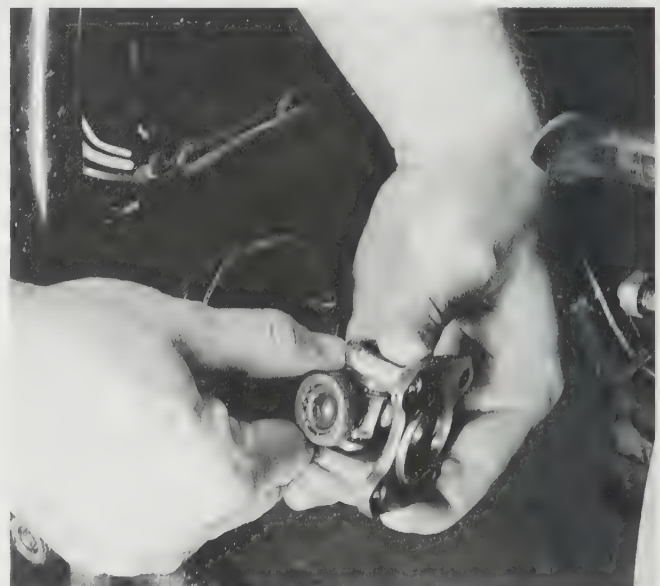

Figure 21-42. Universal joint looseness is easily determined by moving or wiggling each joint section separately.
- Inspection for universal joint looseness. This is shown in **Figure 21-42**.